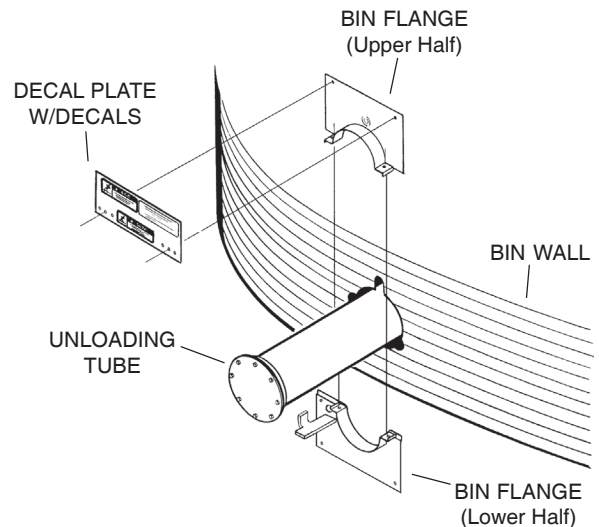

FIG. 13
Attach the bin flange to the auger tube as shown in Fig. 13. Loosely secure the bin flange using two (2) 5/16 x 1 1/2" bolts and locknuts (tighten only enough to allow the flange to slide on the tube).